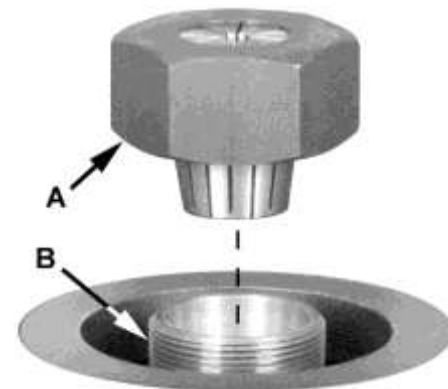
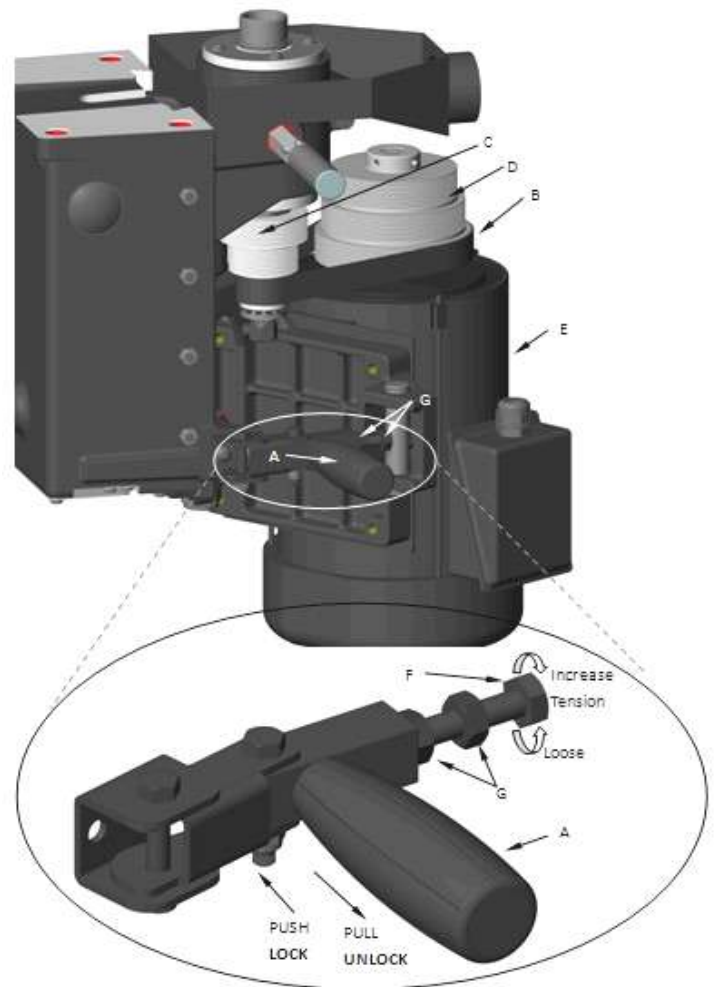

Fig.14
Fig.15
2. Place the router collet (A)(Fig.14) onto the spindle (B)(Fig.17) and secure with the wrench (K)(Fig.15) provided.
Turn the router collet (A) by hand to verify that it turns freely (Fig. 14).
Referring to Fig. 15:
Referring to Fig. 15 :